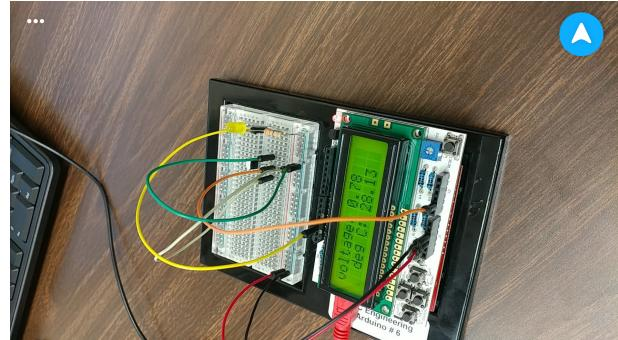

Figure 5. Circuit for temperature reading
2. Use jumper wires to connect to negative to ground, positive to voltage, signal to any analog in from A1 to A5. (circuit shown in *figure 5* below)